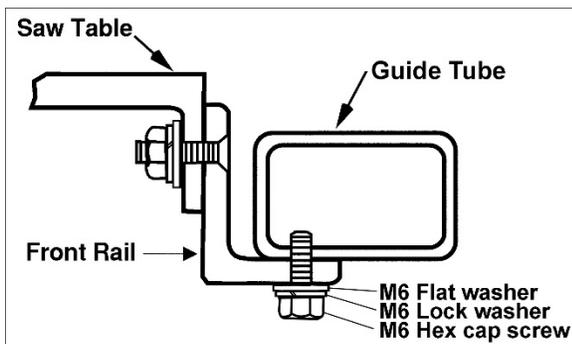

Figure 6-13
- Fasten guide tube to rail from beneath, with eight M6x20 hex cap screws and lock washers (Figure 6-13). *Finger-tighten only.*